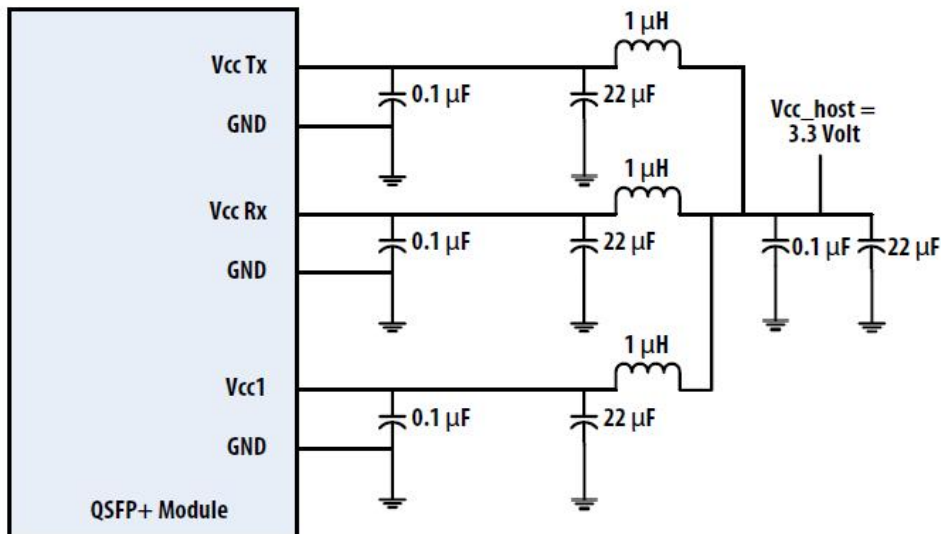

Figure 3.
2. VccRx, Vcc1 and VccTx are the receiving and transmission power suppliers and shall be applied concurrently. Recommended host board power supply filtering is shown in Figure 3 below. Vcc Rx, Vcc1 and Vcc Tx may be internally connected within the module in any combination. The connector pins are each rated for a maximum current of 1000mA.